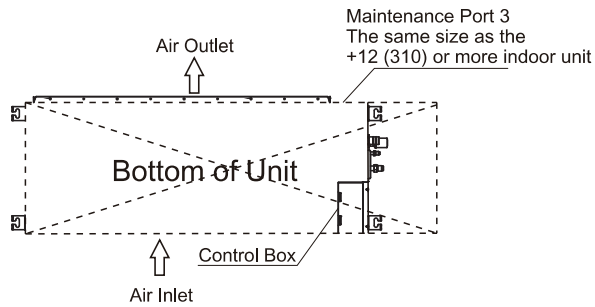

Fig. 3.1.4
When the height (H) from the ceiling to the bottom plate of the unit is < 12 in.(300 mm), access holes are required, as shown in Fig. 3.1.3, Fig. 3.1.4.